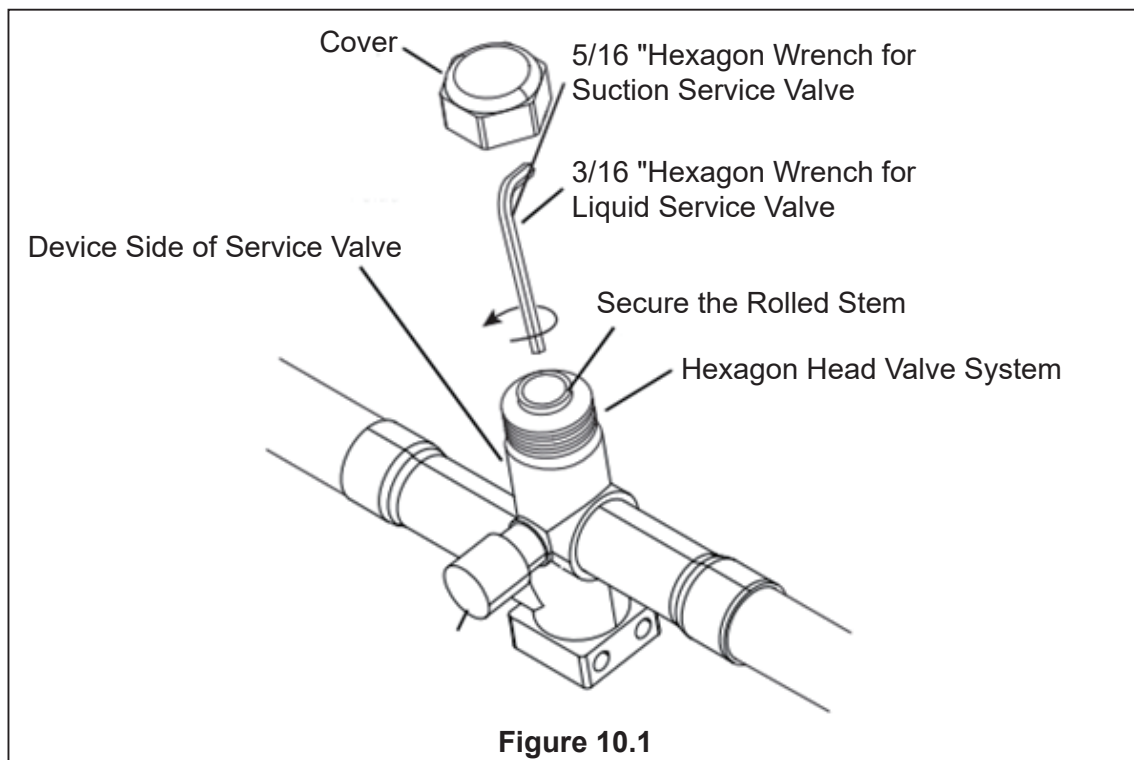

Figure 10.1
1. Remove the valve cover (Figure 10.1).
2. Insert the hex wrench into the valve stem completely and back out counterclockwise until the valve stem just touches the bead (about five (5) turns).)